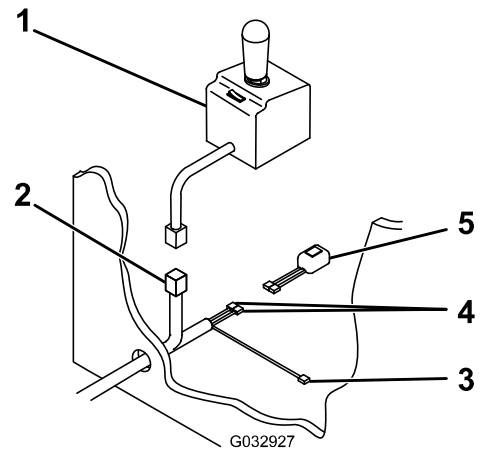

Figure 18
12. Connect the 2 black wires to the headlight toggle switch (Figure 18).
11. Pull the plow controller connector, black/red wire, and 2 black wires into the vehicle cab through the hole in the firewall (Figure 18).